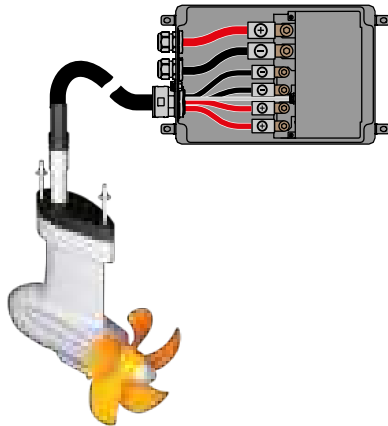

Fig. 41: Cabling of electronics box
1. Release the screws (1) of the electronics box in order to open it.
4. Connect the power cable to the respectively marked terminals (red = +, black = -; 10 Nm), **see "Fig. 41: Cabling of electronics box"**.
5. Connect the motor cable to the motor control connection (6).